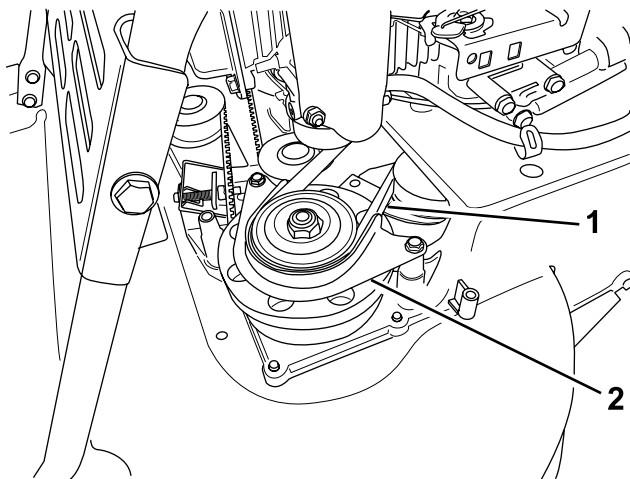

Figure 44
7. Remove the BBC belt guard (Figure 44).